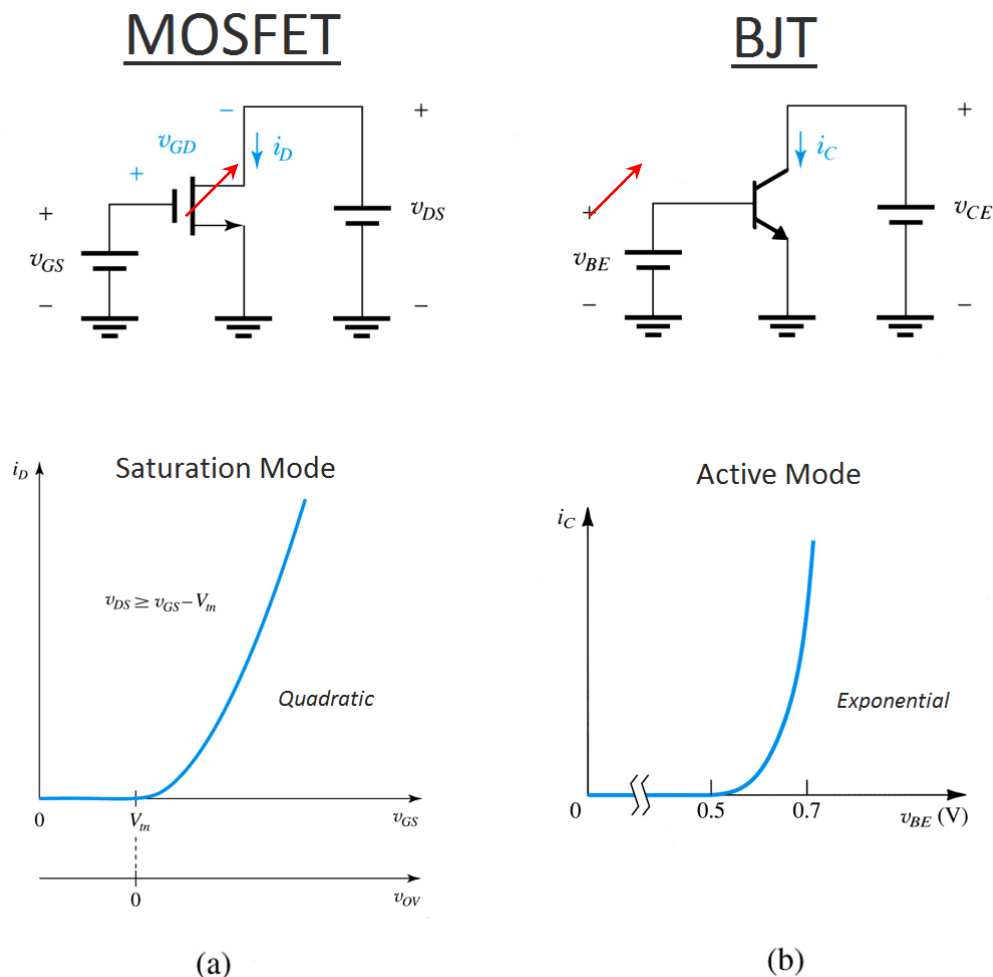
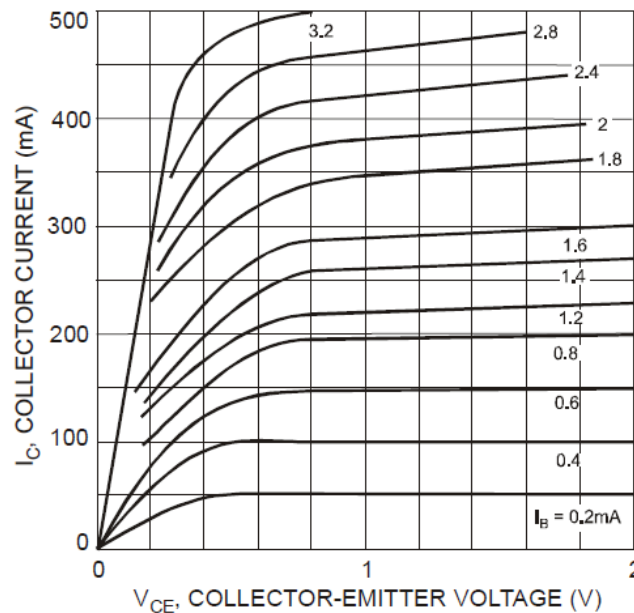
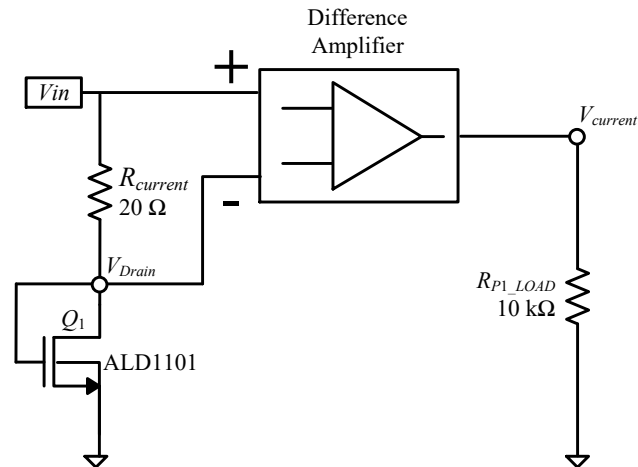
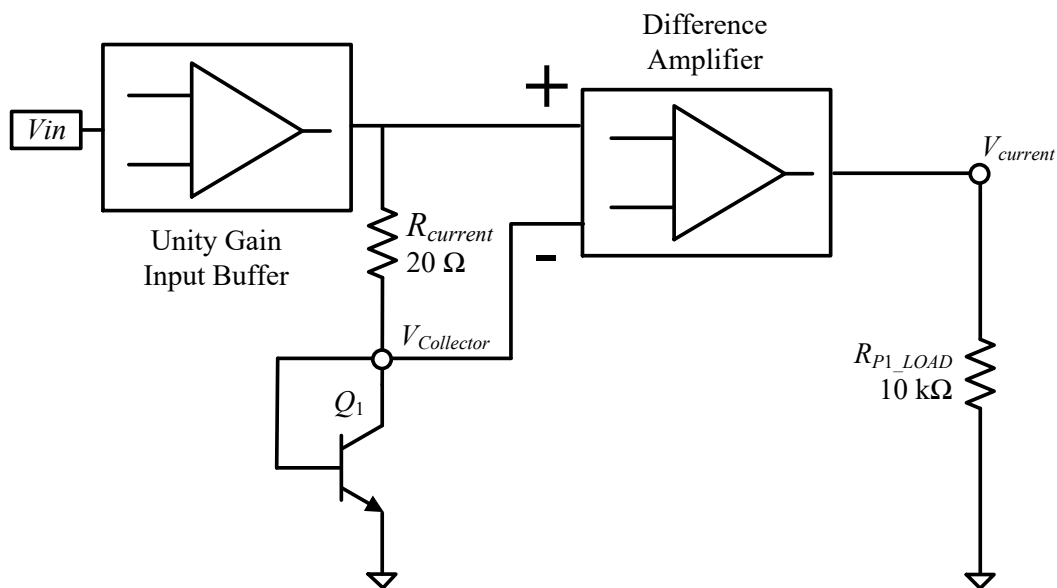

Fig. 8: (a) MOSFET  $i_D$  versus  $v_{GS}$  characteristic. (b) BJT  $i_C$  versus  $v_{BE}$  characteristic.
Fig. 10: Measured  $i_C$  vs  $v_{CE}$  characteristic for the BC817-16
Fig. 14: MOSFET  $I_D$  vs.  $V_{GS}$  characteristic measurement circuit.
Fig. 16: BJT  $I_C$  vs.  $V_{BE}$  characteristic measurement circuit.
The I-V characteristics of a BJT have many similarities to those of a MOSFET, but there are several important differences to note. The ideal BJT  $i_C$  vs.  $v_{BE}$  characteristics are compared to the ideal MOSFET  $i_D$  vs.  $v_{GS}$  characteristics in Fig. 8. A comparison between the ideal BJT  $i_C$  vs.  $v_{CE}$  characteristics and the ideal MOSFET  $i_D$  vs.  $v_{DS}$  characteristics is shown in Fig. 9. The measured BJT  $i_C$  vs.  $v_{CE}$  characteristic from the datasheet is shown in Fig. 10.
One particularly desirable feature of BJTs for amplifier design is that the signal-signal transconductance,  $g_m$ , is proportional to the collector current,  $I_C$ , while the MOSFET's transconductance is proportional to  $\sqrt{I_D}$ . Unlike MOSFETs, which ideally have zero gate current due to the oxide capacitance, BJTs have a finite base current,  $I_B = I_C/\beta$ , which makes solving both DC and small-signal BJT circuits considerably more complex than MOSFET circuits. When used as a switch in saturation mode, BJTs have a voltage offset of approximately 0.2 V, as shown in Fig. 8(b), while MOSFETs have a purely linear characteristic in the triode region, as shown in Fig. 8(a).
In this portion of the lab we will use the circuit shown in Fig. 14 to observe the I-V curves of an NMOS transistor by using the oscilloscope in XY mode.
- E2 You will first perform the  $I_D$  vs.  $V_{GS}$  characterization. Config the circuit as shown in Fig. 14. Setup the function generator to output  $V_{in}$  as a **8  $V_{p-p}$ , +4 V offset, 100 Hz, triangular wave**. Do not connect  $V_{in}$  until you finish the circuit connection and supply 5V to the amplifiers. Use CH1 to probe the voltage  $V_{drain}$  at the drain of Q1 ( $V_{DS} = V_{GS}$  in this mode). Use CH2 to probe the voltage  $V_{current}$  at the output of the difference amplifier ( $V_{current} = 100 \cdot i_{DS}$ ). Set up the oscilloscope in XY mode with CH1 on the x-axis and CH2 on the y-axis; this should resemble Fig. 8(a). Measure the approximate threshold voltage and compare it to the datasheet value. Measure the current in saturation for  $V_{GS} = V_{DS} = 5\text{ V}$  and compare to the value in Table 1. Measure the approximate  $\Delta V_{GS}$  for  $I_D$  increasing from 10 mA to 30 mA (refer to eq. (2)) and calculate  $g_m = \frac{\Delta I_D}{\Delta V_{GS}}$ .
- E6 Set the circuit to as shown in Fig. 16 to characterize ' $I_C$  vs.  $V_{BE}$ '. Setup the function generator to output  $V_{in}$  as a **5  $V_{p-p}$ , +2.5 V offset, 100 Hz, triangular wave**. Set up the unity gain input buffer using the second amplifier on MCP6002 first. Since the BJT is diode-connected,  $V_{BE} = V_{CE}$ . Use CH1 on the oscilloscope to measure  $V_{BE}$  by measuring  $V_{Collector}$ . Use CH2 to measure  $I_C$  by using the node  $V_{CURRENT}$ . Set the oscilloscope in XY mode and compare the curve to Fig. 8(b). Measure the approximate  $\Delta V_{BE}$  for  $I_C$  increasing from 10 mA to ~25 mA (refer to eq. (1)) and calculate  $g_m = \Delta I_C / \Delta V_{BE}$ . Estimate  $I_s$  by using the "Dominant I-V characteristic" equation for a BJT listed in Table 4. Compare the calculated values of  $g_m$  for the BJT and the MOSFET.
- E7 Setup circuit as below, **set the  $V_{in}$  to 0 V before power on**. Now the  $V_{in}$  can be used to control  $I_B$  for the BJT. **Increase the *ANALOG* by 0.5 V increments up to 2.5 V.** Compare the family of curves to Fig. 10. Set the *ANALOG* to 0 V and increase the *ANALOG* in 0.5 V increments up to 2.5 V. How is the boundary between the saturation and active regions of a BJT different from the boundary between the triode and saturation regions of a MOSFET?